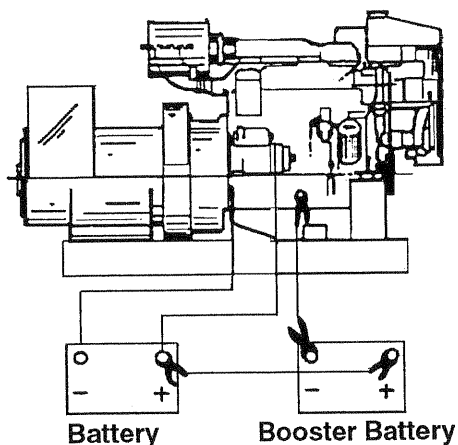

Figure 16. Booster Battery Connections.
3. First, connect positive (+) terminal of booster battery to positive (+) terminal of main battery. Then, connect negative (-) terminal of booster battery to ground on the engine block (see Fig. 16).